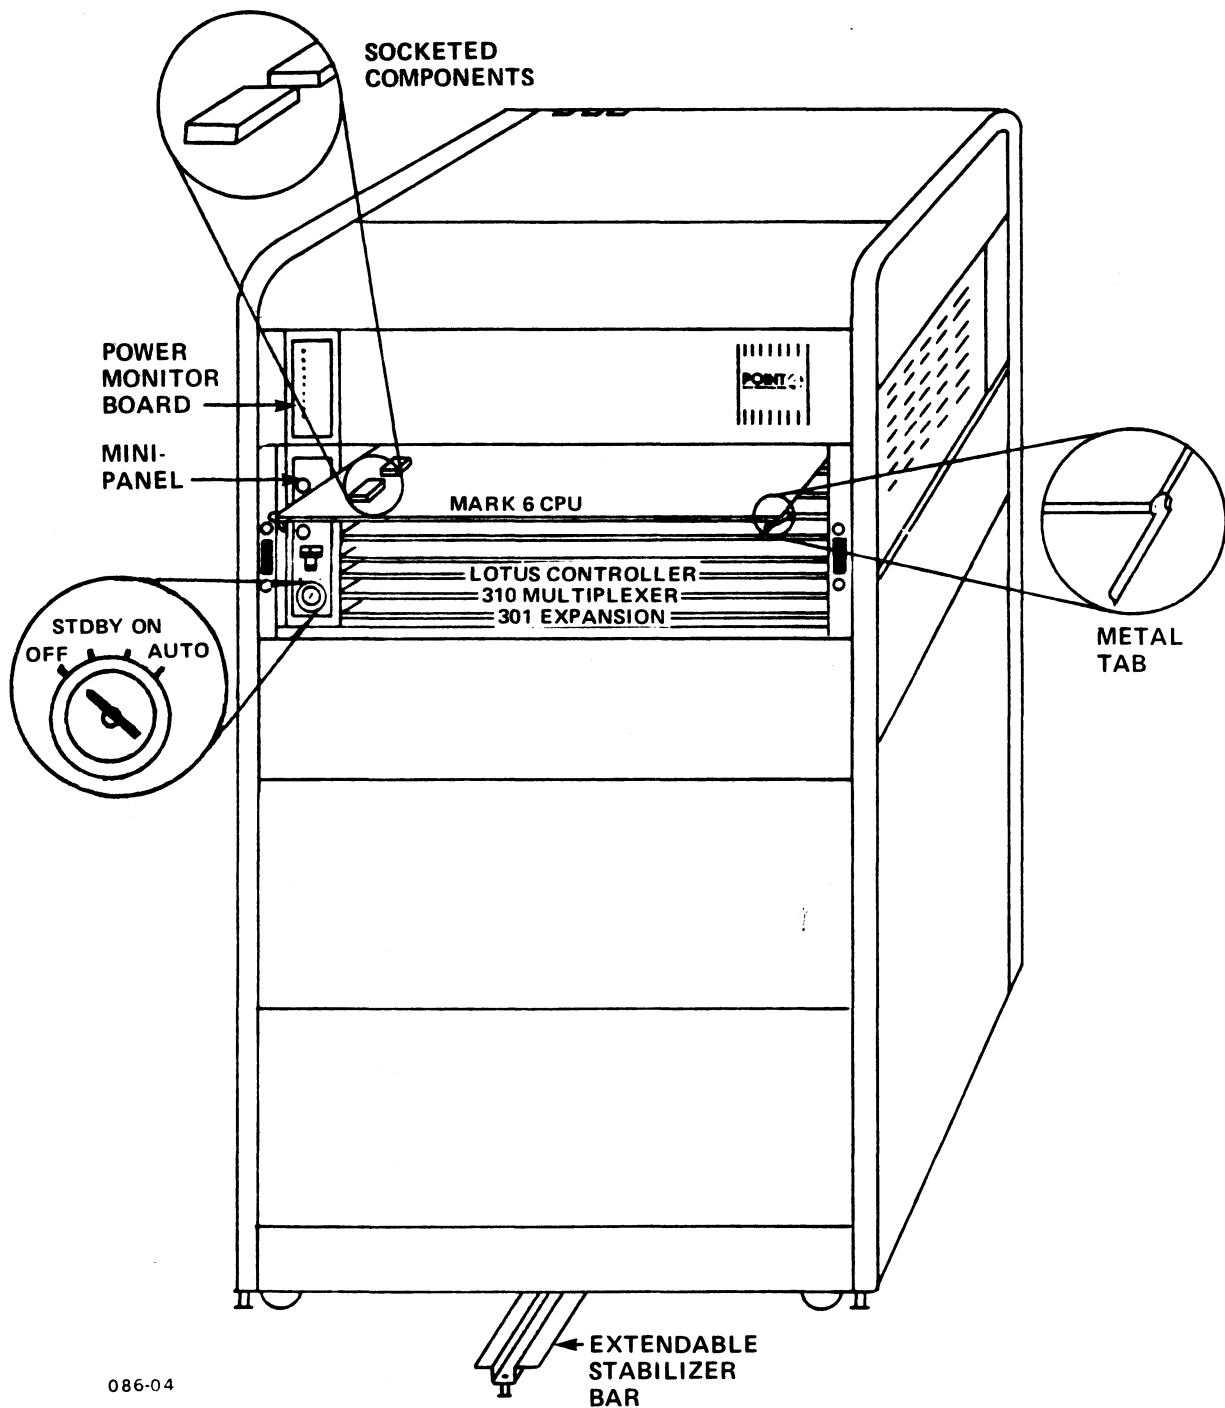

Figure 4-1. Front View, MARK 6 Integrated System
1. To prevent the cabinet from tipping over, pull out the stabilizer bar, located at the bottom front of the cabinet (see Figure 4-1).